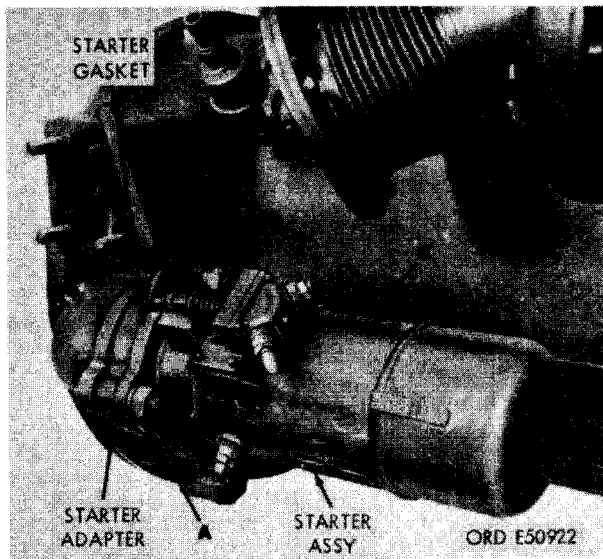
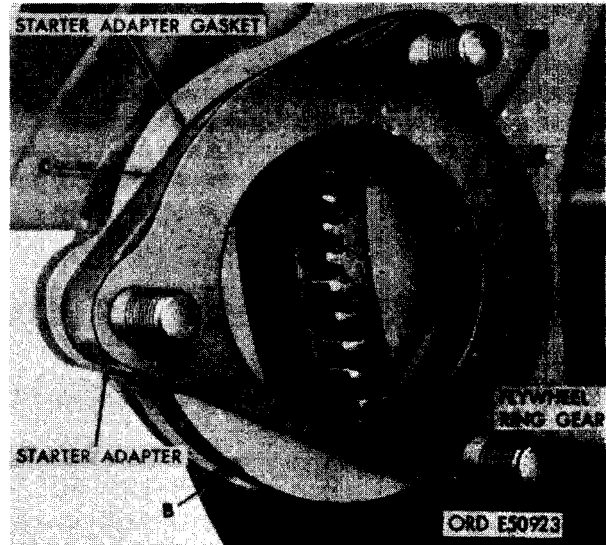

FIGURE 39. REMOVING OR INSTALLING STARTER ASSEMBLY.
FIGURE 40. REMOVING OR INSTALLING STARTER GASKET, STARTER ADAPTER, STARTER ADAPTER GASKET, AND INSPECTING FLYWHEEL RING GEAR.
- (1) General. The illustration sequences provided in the following subparagraphs depict the procedures for removal of the particular item involved. The installation procedures are provided by reversing the illustration and instruction sequence unless otherwise indicated.
- (2) Engine accessories. Figures 39 through 87 provide a pictorial step-by-step procedure for the replacement of engine accessories.
- (1) Figure 39. (A) Remove three 5/8-inch plain nuts and 5/8-inch lock washers attaching starter assembly to flywheel housing. (B) Remove the starter by pulling starter straight out from flywheel housing until drive gear clears starter adapter and the mounting flange clears the three studs.
Note. Check condition of starter drive gear teeth. If teeth are damaged, inspect flywheel ring gear (fig. 40) for damaged or broken teeth.
- (2) Figure 40. (A) Remove and discard starter gasket. (B) Remove starter adapter. The starter adapter will loosen on the mounting studs during removal of starter assembly (fig. 39). (C) Remove and discard starter adapter gasket. (D) Inspect flywheel ring gear for broken, missing or damaged teeth.
b. Installation. Refer to figures 39 and 40 and reverse the sequence of illustrations and instructions to install the starter assembly.